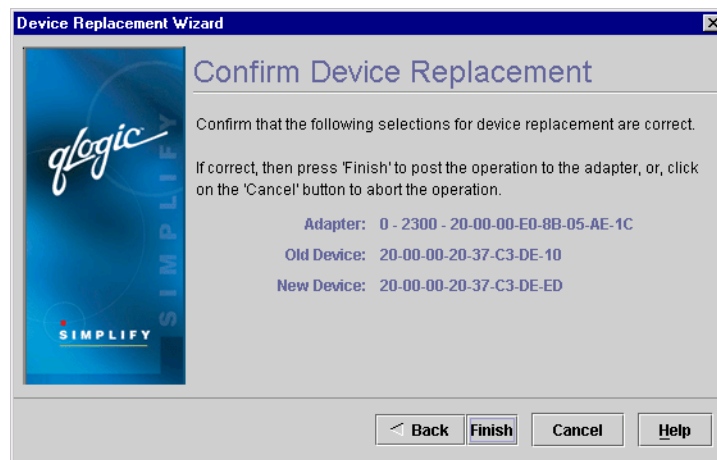

Figure 7-19. Confirm Device Replacement Dialog Box
6. If you clicked **Next**, the **Confirm Device Replacement** dialog box displays (see figure 7-19).